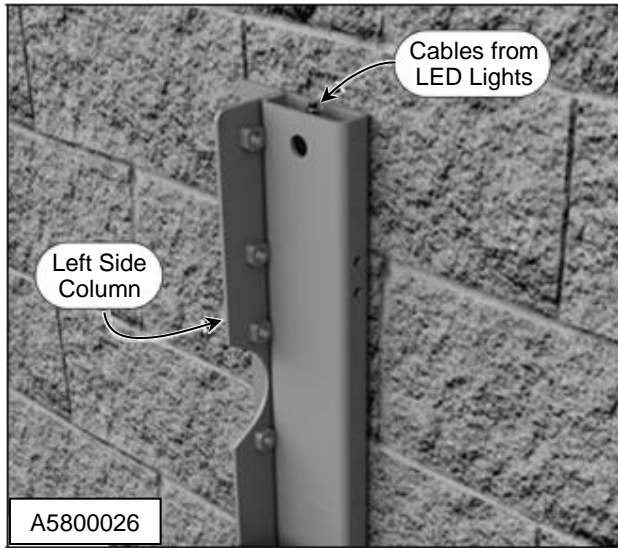

Figure 31
1. Connect cables to LED connectors. (See Figure 31)
NOTE: Head assembly has been removed to show clarity of the LED connectors. (See Figure 31)